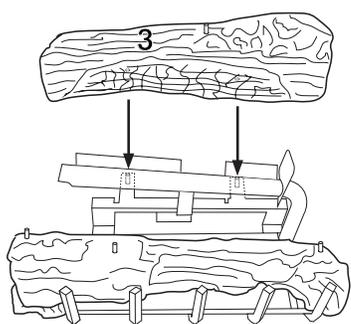

Figure 42 - Installing Log No. 3
2. Rest left side of log #2 (front log) onto top of log #1. Place right side of log onto second pin located on right side of grate (see Figure 42).